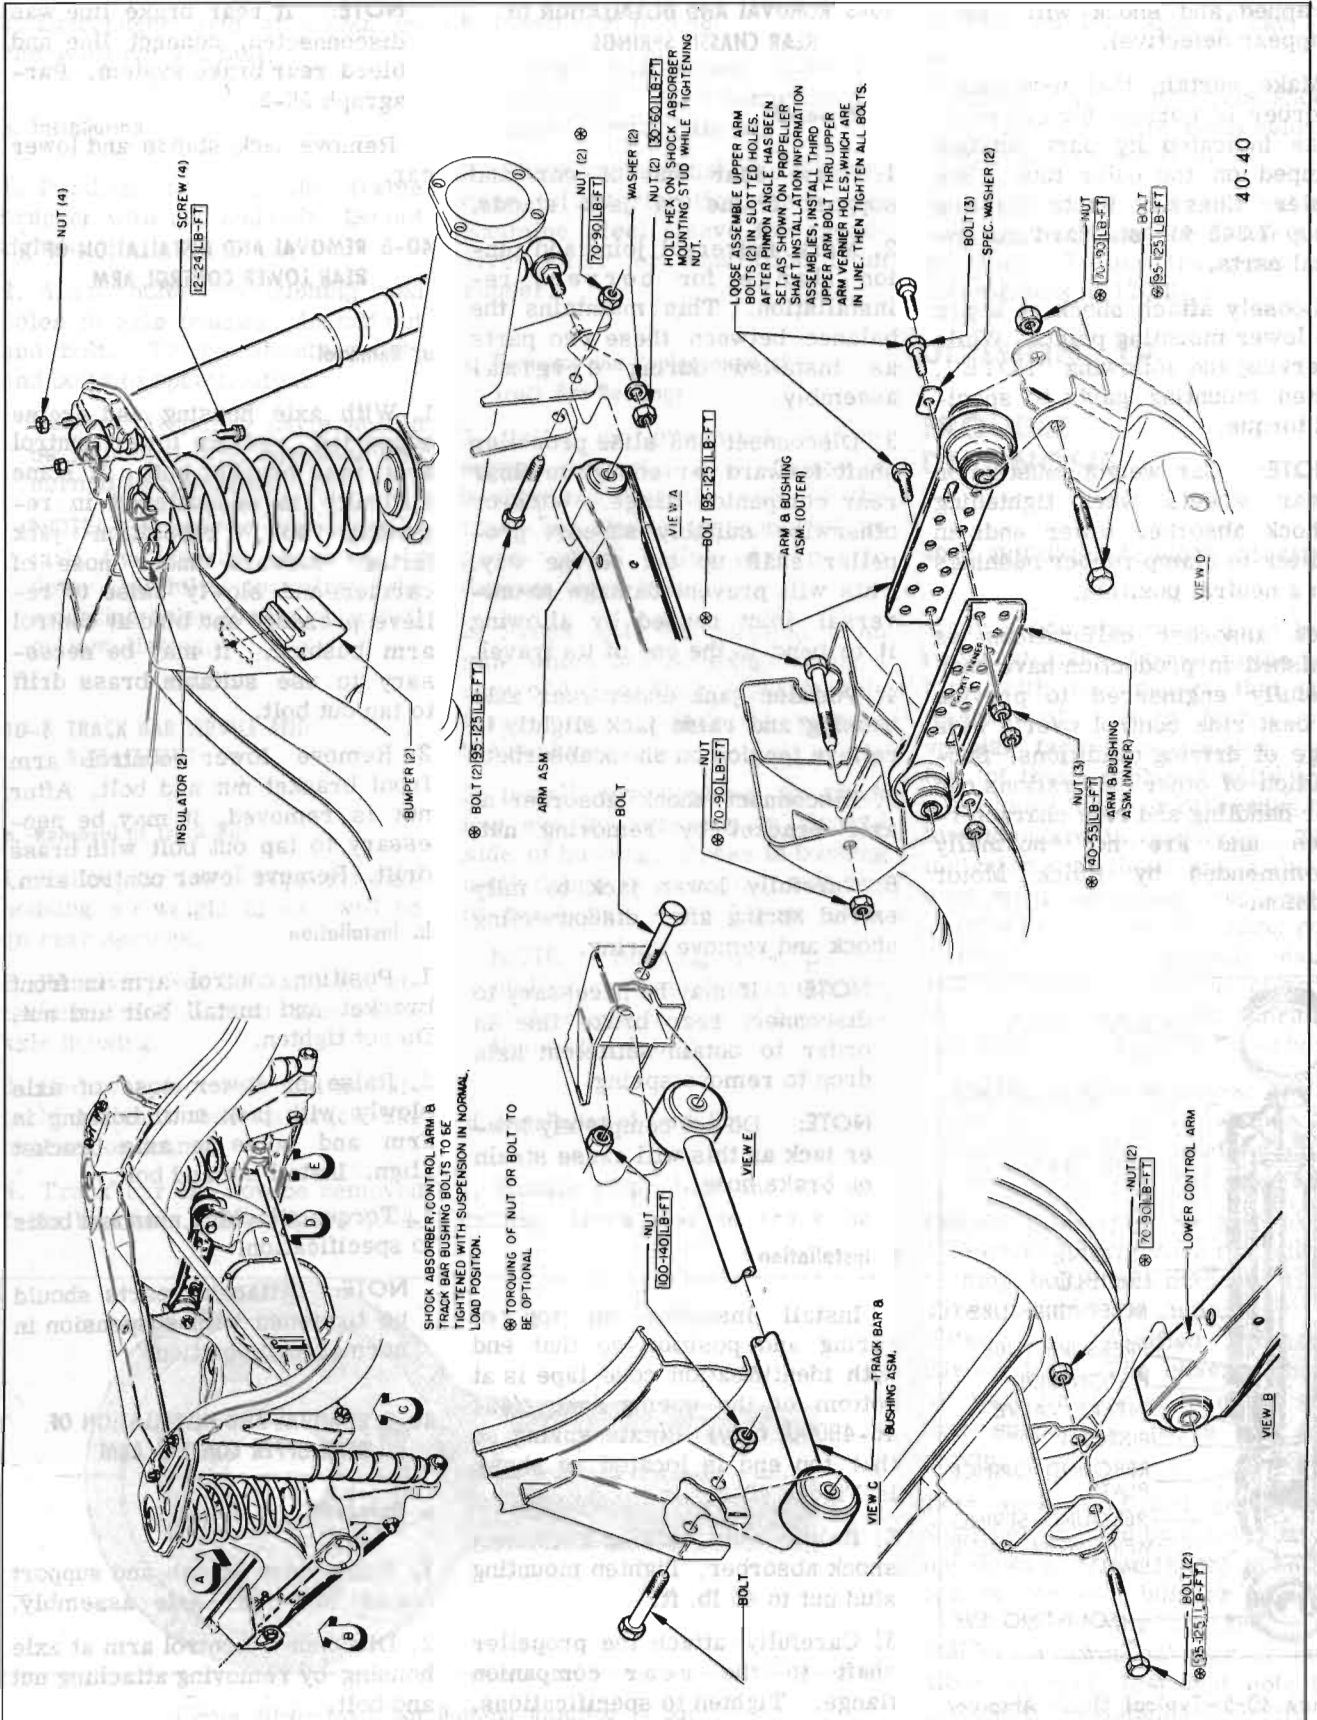

Figure 40-4 49000 Rear Suspension
The rear wheels are not independently sprung, being incorporated into the rear axle assembly. The rear wheels are held in proper alignment with each other by the rigid construction of the axle housing and by a pair of lower control arms. With the use of an open type drive line, driving and braking forces are taken by these control arms. The control arms are connected to the frame at their front ends and to a bracket welded to the axle tube at the opposite ends. Both mounting joints are pivoted through rubber bushings. See Figure 40-4.
4. Track bar can now be removed from brackets. See Figure 40-4.